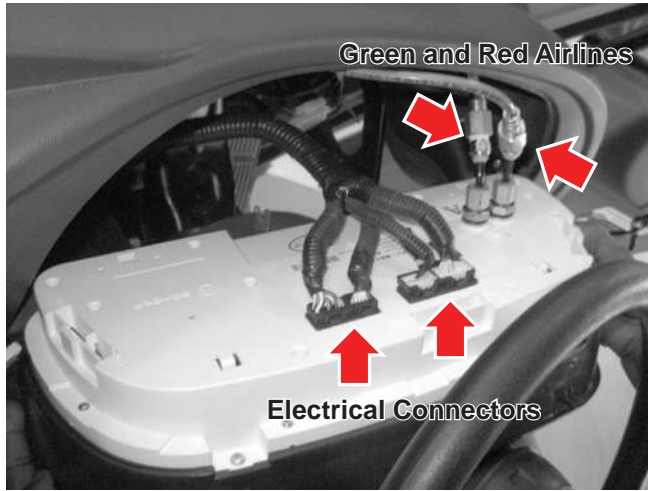

Figure 4-2
5. Using quick-release mechanism on fittings, unhook the green and red airlines from the cluster (see *Figure 4-2*).
6. Disconnect the four electrical connectors from the cluster (see *Figure 4-2*).